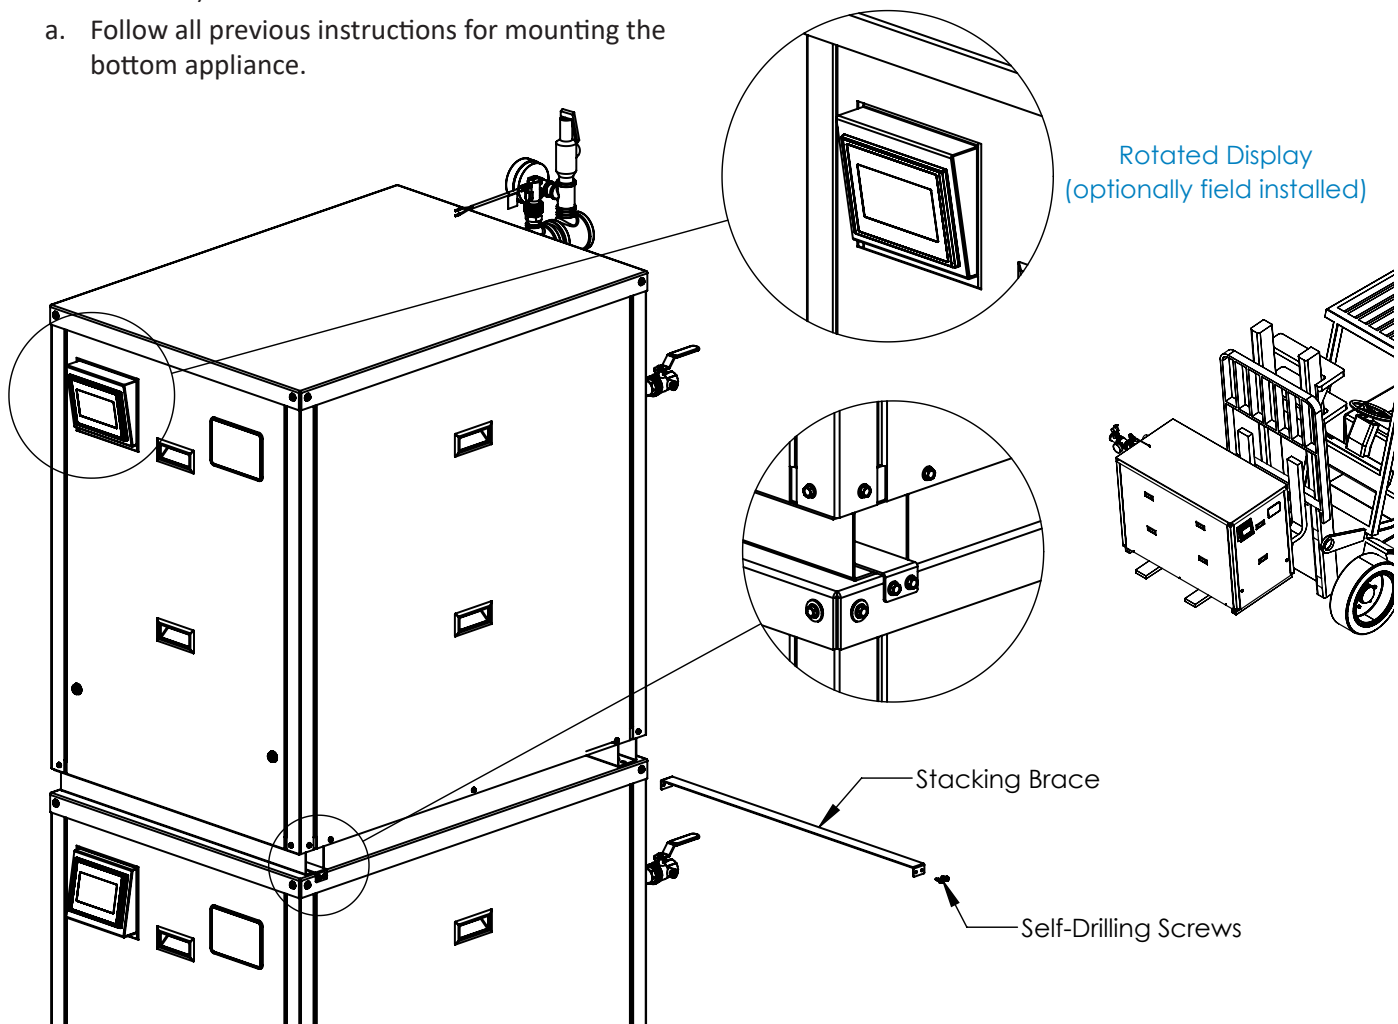

Figure 5: 400-1000L Stacking Brackets and Display Rotation
- b. Use the included screws to secure the brace as shown in Figure 5.